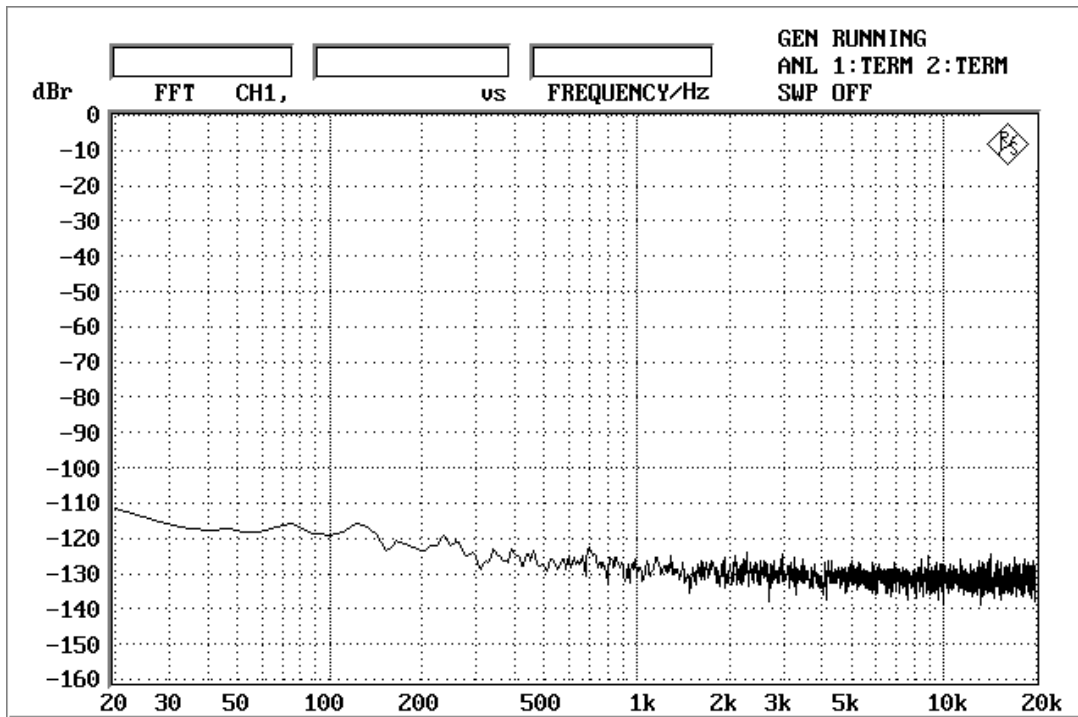

Figure 1-1-8. FFT (noise floor)
- Figure 1-1-8. FFT (noise floor)